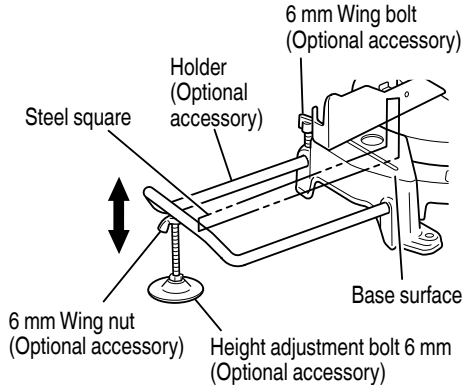

Fig. 18
- (1) As indicated in Fig. 18, use a steel square for aligning the upper edge of the holders with the base surface. Loosen the 6 mm wing nut. Turn a height adjustment bolt 6 mm, and adjust the height of the holder.
- (2) After adjustment, firmly tighten the wing nut and fasten the holder with the 6 mm wing bolt (optional accessory). If the length of Height Adjustment Bolt 6 mm is insufficient, spread a thin plate beneath. Make sure the end of Height Adjustment Bolt 6 mm does not protrude from the holder.